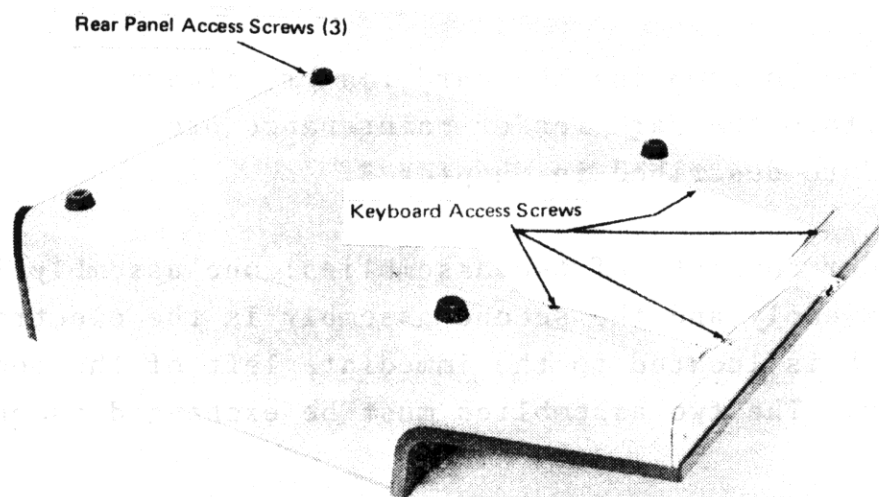
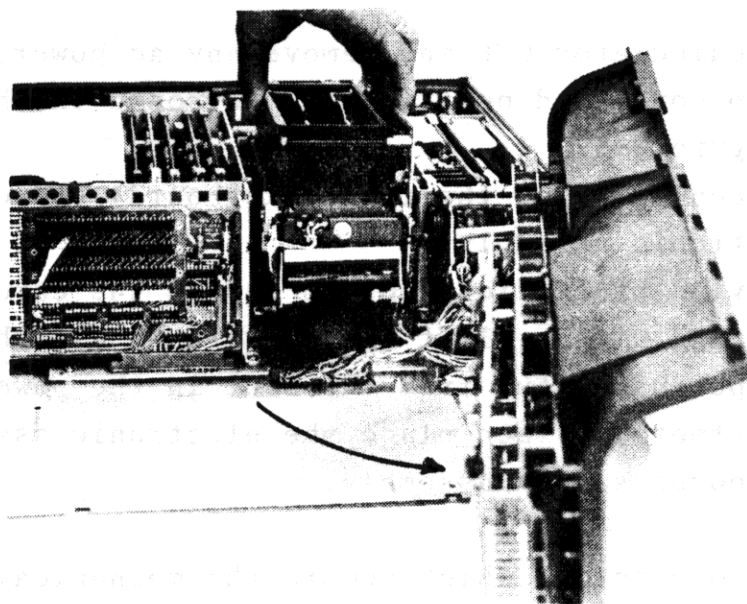

Figure 5-4. The Keyboard Access Screws
Figure 5-5. The Keyboard in the Access Position
The keyboard can be removed by switching the calculator OFF and disconnecting all of the ac power cords and I/O Signal cables which are connected to the calculator back panel. Set the calculator on the back panel (with the bottom of the instrument toward you) and remove the four screws (see Figure 5-4) which secure the keyboard to the chassis. Next, return the calculator to the normal position and slide the keyboard forward a few inches. Then, taking care not to damage the interconnecting cables, swing the keyboard to the right (see Figure 5-5). The Keyboard can be removed by disconnecting the ac power cable and unplugging the signal cable from the calculator.
1. Switch the calculator OFF and remove any ac power. Then, remove the top cover and position the keyboard in the position shown in Figure 5-5.
2. Remove the calculator top cover and place the keyboard in the position depicted in Figure 5-5. Remove the printer paper.
The rear panel may be accessed by removing the three screws in the bottom of the calculator (see Figure 5-4) and loosening the two 11/32" nuts located on the top-rear portion of the chassis. The rear panel can, then, be pulled out of the back of the calculator.